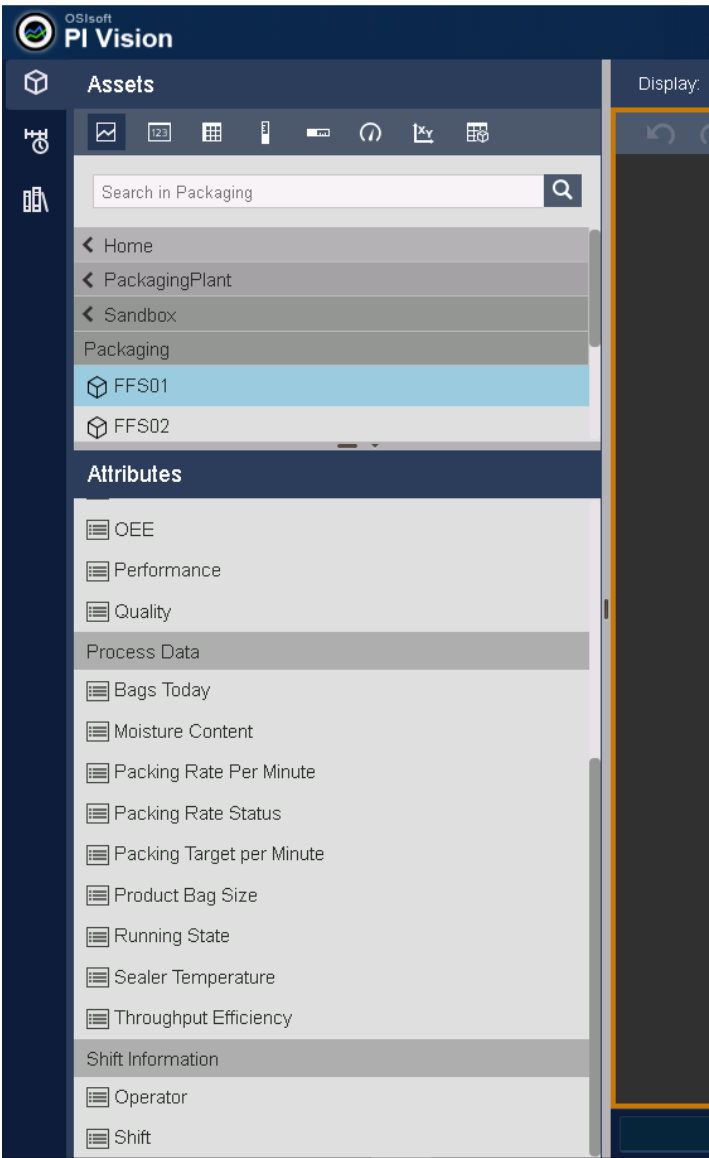

Figure 18. PI Vision displays AF attributes by category
Step 9. Navigate to one of the FFS units under the Sandbox environment and verify that the new categorization has been applied. Figure 18 shows that Shift and Operator now appear under the Shift Information category.